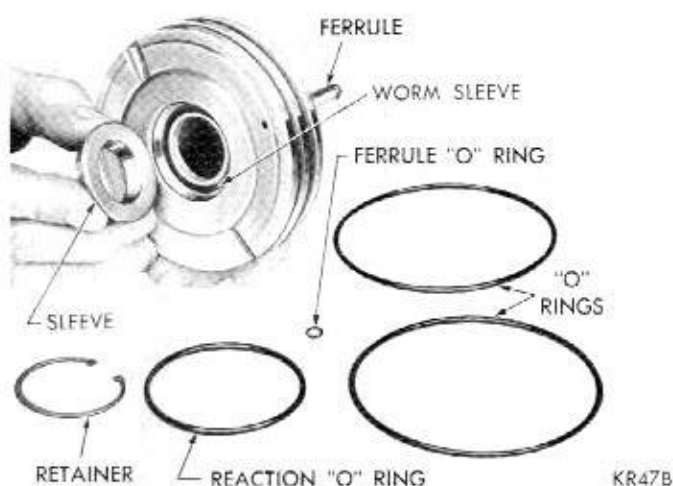

Fig. 17—Removing Cylinder Head Oil Seal
(24) Remove snap ring, sleeve and rectangular oil seal ring from cylinder head counterbore (Fig. 17).
(25) Test operation of wormshaft. The torque required to rotate wormshaft throughout its travel in or out of piston must not exceed 2 inch-pounds with a 15 pound side load. The worm should run in and out of piston under its own weight.